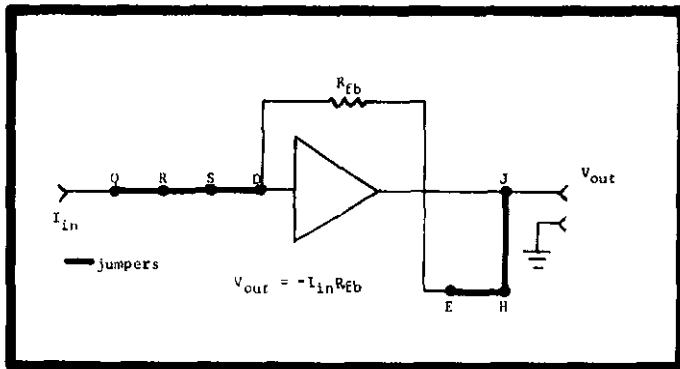

FIGURE 8. Linear Current Amplifier Without Fractional Feedback.
c. Figures 8 through 15 illustrate the various modes of operation. The lettered terminals in these figures refer to the lettered points in Figures 6 and 7. Refer to the figures to connect jumpers and to mount elements.
2-7. LINEAR CURRENT AMPLIFIER (Figures 8 and 9).
c. Connections for a linear current amplifier without a fractional feedback (Figure 8):